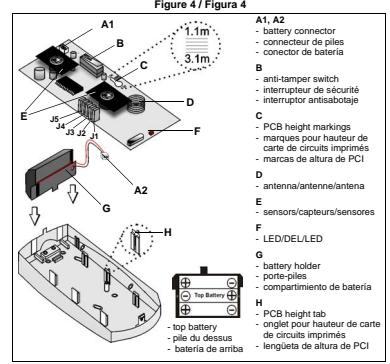

Figure 4 / Figura 4
- Insert the "AA" batteries into the battery holder while verifying polarity (Figure 4).
2. Insert the battery holder into the back cover and affix the battery connector to the PCB (see "A1" and "A2" in Figure 4).